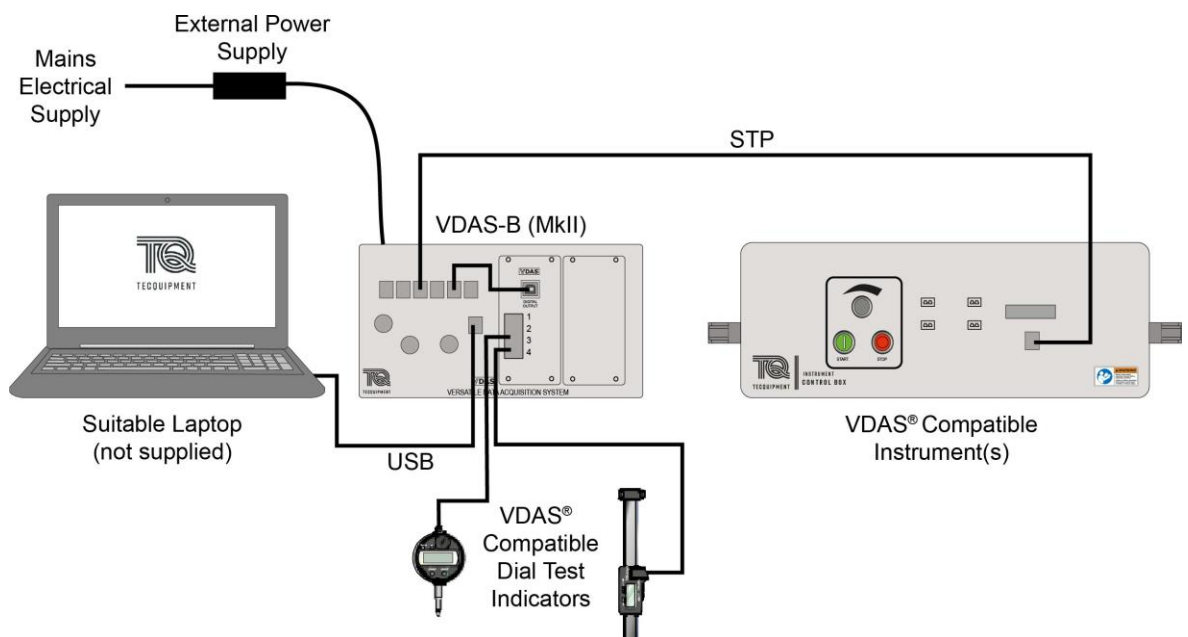

Figure 9 Typical System Connections for the VDAS-B
1. Figure 9 shows typical connections for the VDAS-B Hardware.